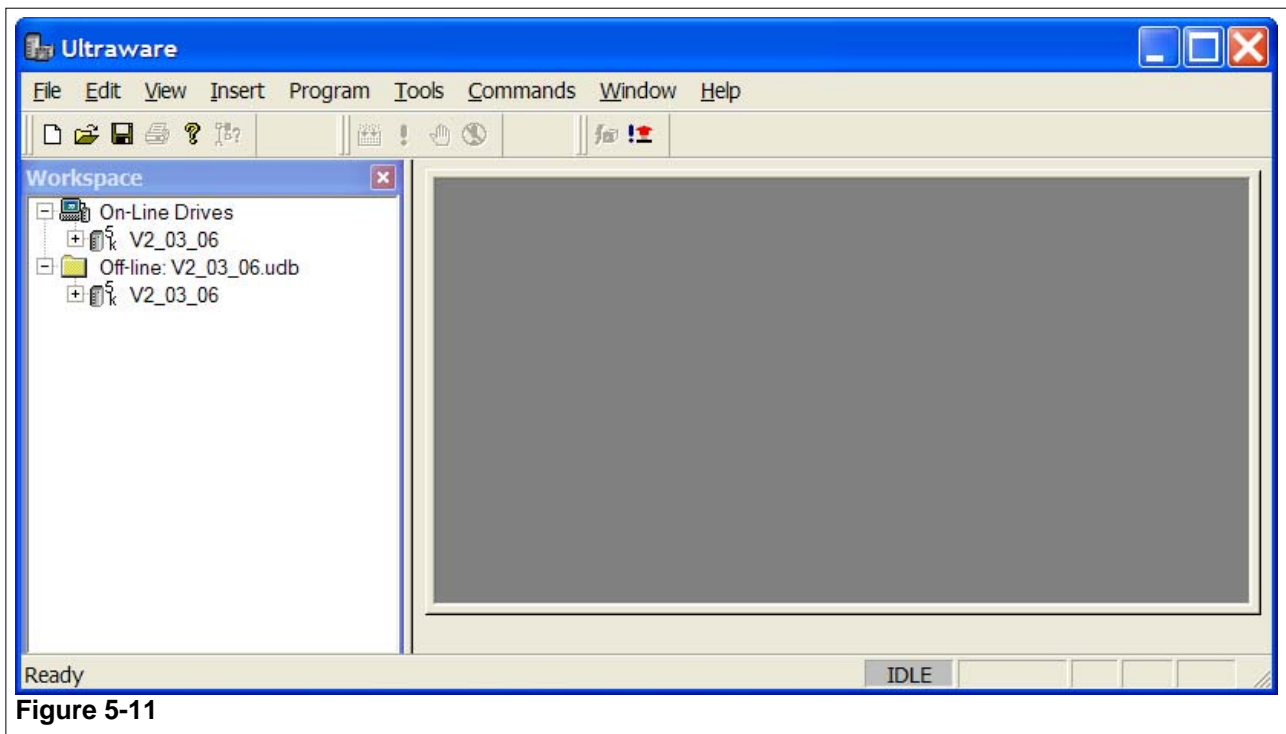

Figure 5-11
- Step 10. The saved drive is now visible in the “Off-line” folder of the Workspace Window. (Figure 5-11)